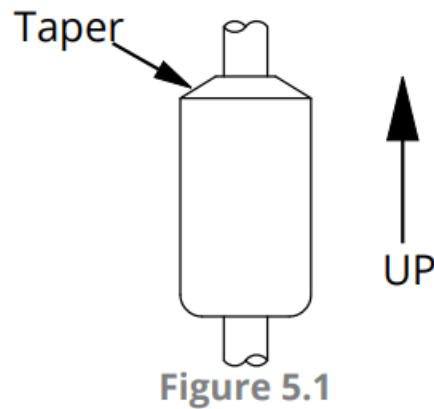

Figure 5.1
- The float(s) is/are oriented properly on the stem (See Figure 5.1 below). MPI-F floats are installed by the customer.
- The slide floats onto the stem. If using two floats, slide the lighter float on first. Tops of floats will be indicated by stickers, taper, or etching on the float. (See Figure 5.1) After ensuring the top of the float is toward the MPI-F sensor head, remove the sticker(s).